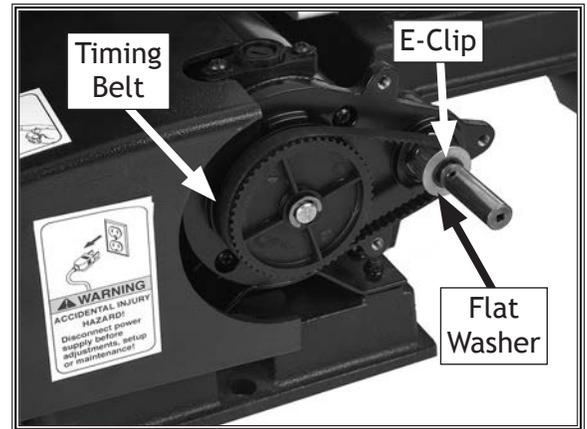

Figure 41. Timing belt and pulleys.
4. Remove E-clip and flat washer from drive shaft (see **Figure 41**), remove timing belt from pulleys, then slide new timing belt onto pulleys.